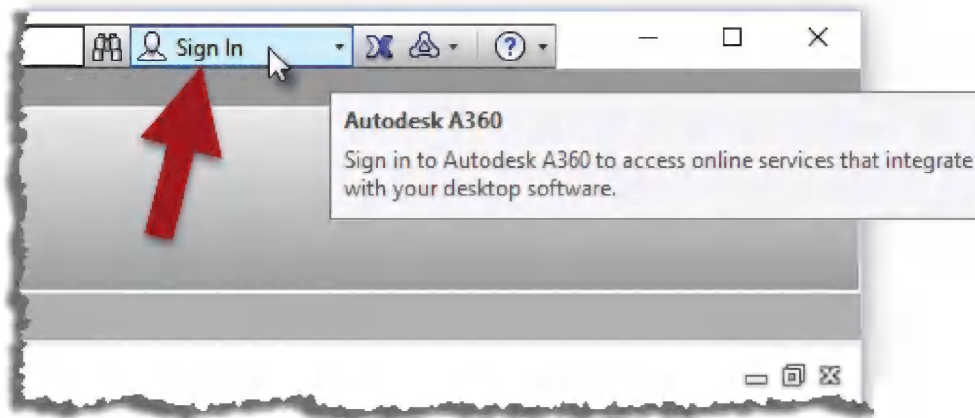

FIGURE 1-7.12 Signing in to Autodesk A360
3. Click the **Sign In** option in the upper-right corner of the application window (Figure 1-7.12).